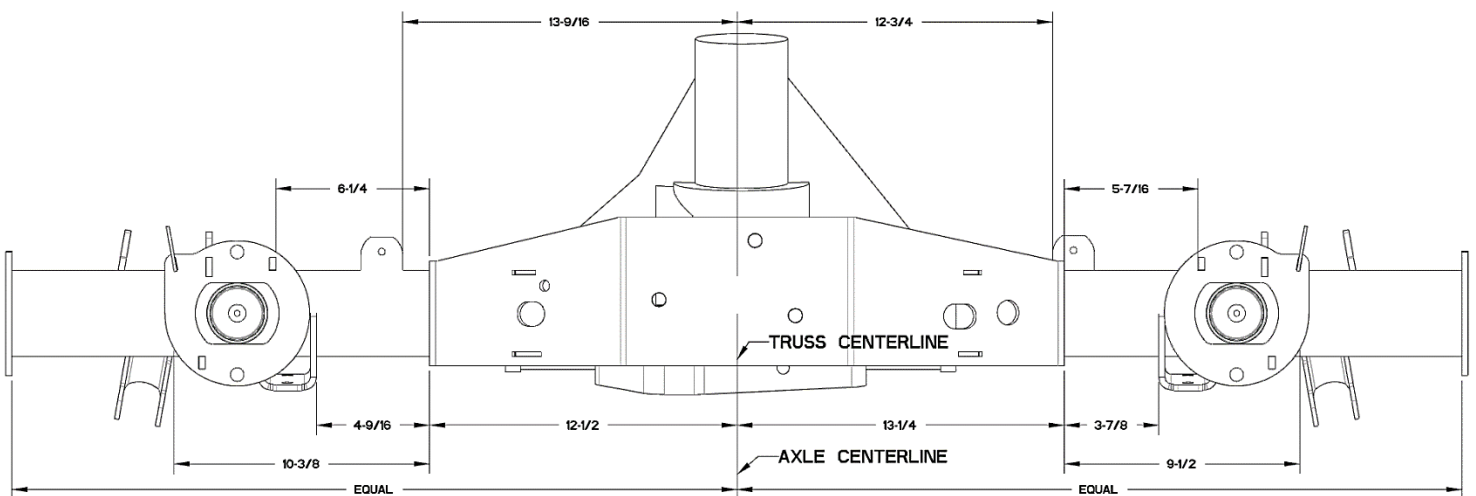

Fig.8
35. If you purchased the E-brake option, position E-brake cable retainer, tack weld in place (Figure 8).
43. Center axle cradle side to side. Make sure X measurements are the same, fully weld to axle. (Figure 8)